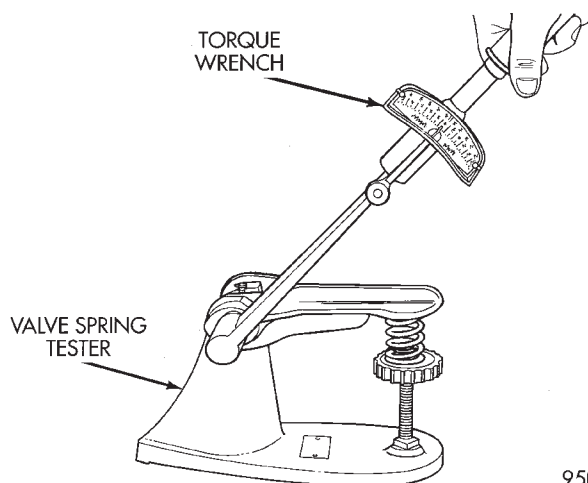

Fig. 97 Testing Valve Spring
(1) Whenever valves have been removed for inspection, reconditioning or replacement, valve springs should be tested Special Tool C-647. As an example, the compression length of the spring to be tested is 33.34 mm (1-5/16 inches). Turn tool table until surface is in line with the 33.34 mm (1-5/16 inch) mark on the threaded stud and the zero mark on the front. Place spring over stud on the table and lift compressing lever to set tone device (Fig. 97). Pull on torque wrench until ping is heard. Take reading on torque wrench at this instant. Multiply this reading by two.